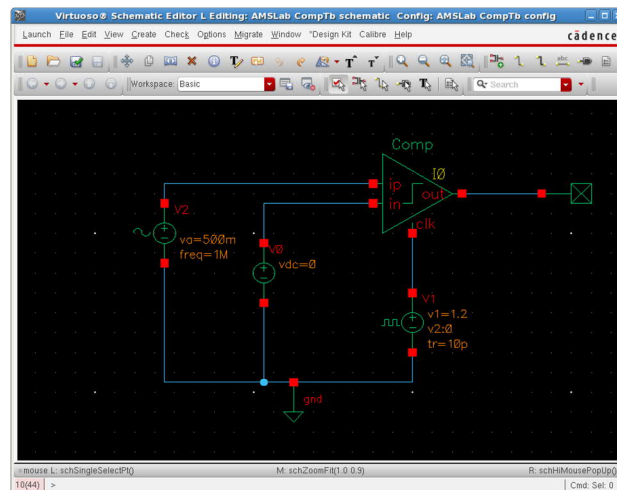

Figure 2. The test bench of the comparator, CompTb.
- a. To simulate the **veriloga** description of the comparator, a test bench shall be used. Open the schematic view of the cell **CompTb** containing the test bench. The process is the same as for any analog circuit, and the result is shown in Figure 2. Use a **10MHz** clock generating a square wave between **0V** and **1.2V**, let the signal at the positive comparator input be a **1MHz** sine wave with **500mV** peak amplitude and **0V** DC value, and set the other input to **0V**. Let the logic levels be **0V** and **1.2V**. Create now a **config** view for **CompTb** with *File > New > Cellview...* and by choosing **config** in the *Type* field. Click on *OK*, and the *New Configuration* window pops up. Click on *Use Template* at the window bottom and select *spectre* in the scroll-down menu of the pop-up window. Click on *OK* and then again *OK*. Click on the *Save* icon in the *Hierarchy Editor* window. Close both **schematic** and **config** windows.
- b. Double-click on the **config** view in the *Library Manager*, and select **schematic** and deselect **config** in the pop-up window. The **schematic** view that opens up is configured by the **config** view, which decides what views for the various instances contained in the test bench are going to be used. The title of the **schematic** window should be something like that in Figure 2: *Virtuoso® Schematic Editor L Editing: AMSLab CompTb schematic Config: AMSLab CompTb config*.